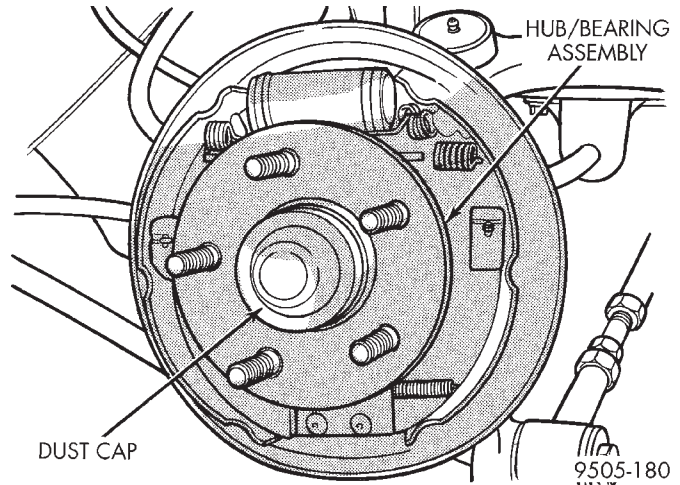

Fig. 147 Rear Hub/Bearing Dust Cap
(18) Remove dust cap (Fig. 147) from rear hub/bearing assembly.